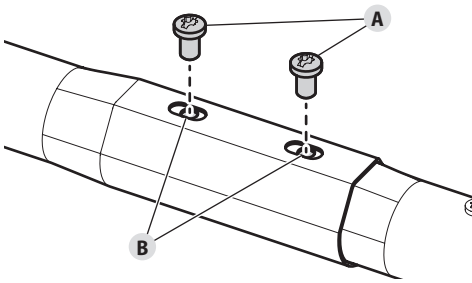

Fig. 7
5. Insert the screws (x2) (Fig. 7-A) into the aligned holes (Fig. 7-B).